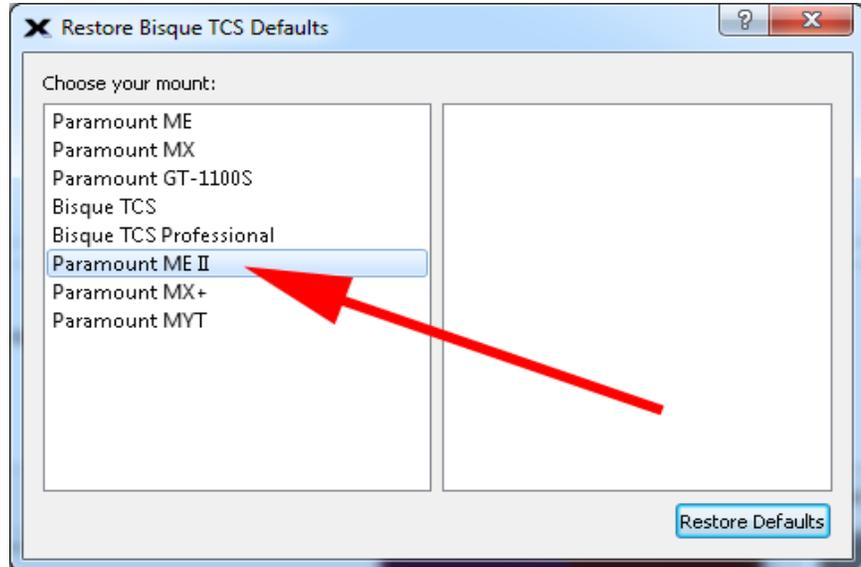

Figure 11: Choosing your Paramount model.
6. **CRITICAL:** When prompted, choose the correct model of your mount (Figure 11).